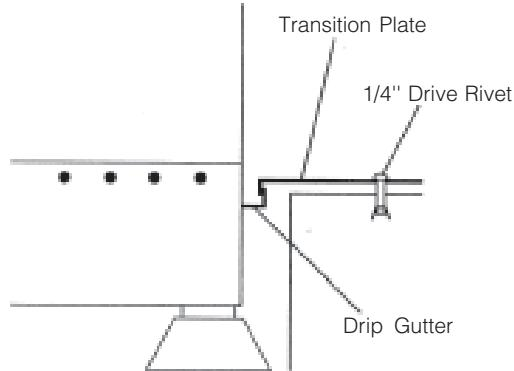

Figure 3-42. Install Transition Plate
1. If pit-mounted unit, fit edge of transition plate(s) over lip of the drip gutter (see Figure 3-42). Slide transition plate as far away from the unit as the interlocked surfaces will allow. Secure transition plate to floor with 1/4-inch drive rivets and weld transition plate to drip gutter, maintaining the maximum allowable opening for the drip gutter.